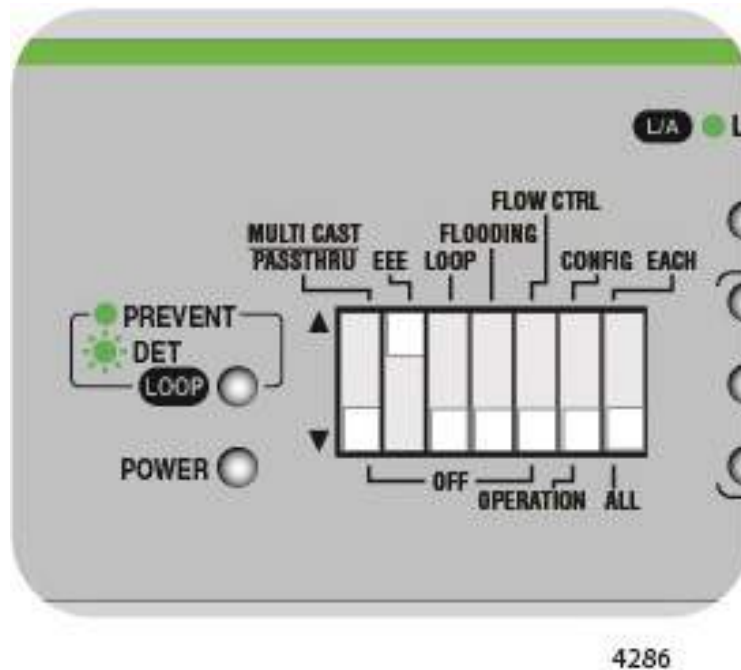

Figure 45. DIP Switch Settings for Enabling EEE
1. Set DIP switch # 2 to the UP position to enable this feature. See Figure 45.